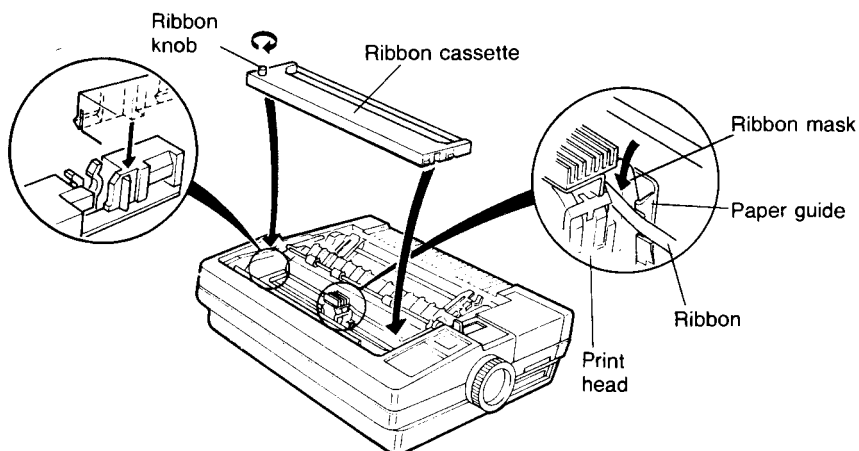

Figure 10. Installing the Ribbon Cassette.
5. Unwrap the new cassette. Before inserting the new cassette, tighten the ribbon by turning the ribbon feed knob in the direction indicated by the arrow in Figure 10.